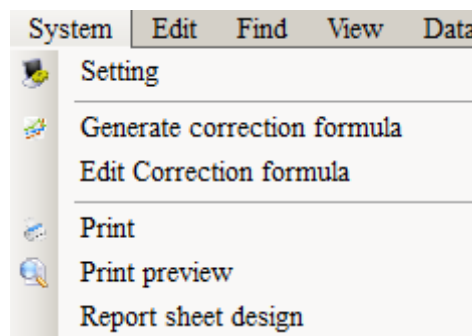

Fig. 5-1-2
5.2. System Menu (Shown as Fig. 5-1-2)